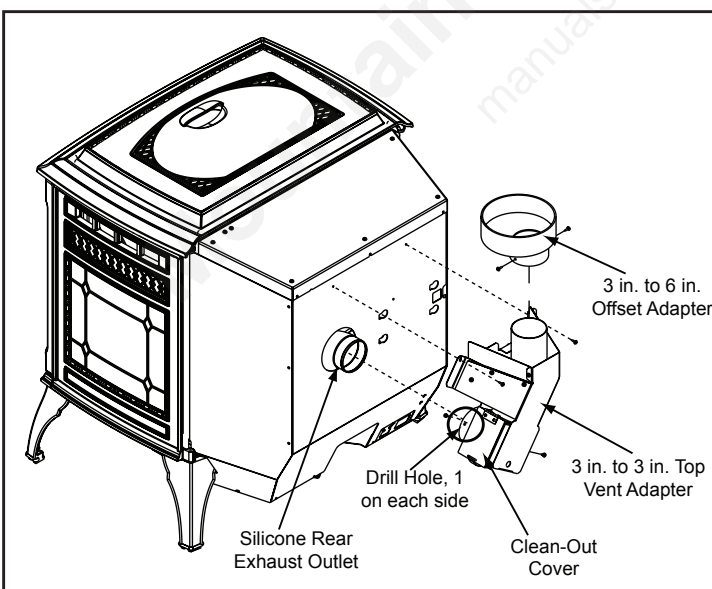

Figure 20.1
1. Put a layer of high temperature silicone on the 3 inch (76mm) exhaust outlet. **Do not put silicone inside of pipe.** **Figure 20.1.**
2. Slide the top vent adapter onto the rear exhaust outlet and adjust the assembly to a vertical position until the top of the flue outlet is centered and is in a level position. **Figure 20.1.**